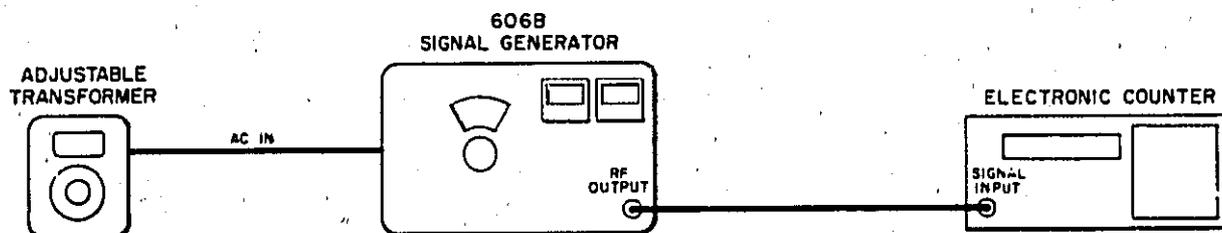

Figure 5-3. Frequency Calibration Test Setup Using Electronic Counter
- Connect test equipment as shown in Figure 5-3 and allow Signal Generator to warmup for fifteen minutes.
- Set line voltage to 115 (230) volts.
a. Connect test equipment as shown in Figure 5-3 and set line voltage to 115 (230) volts.